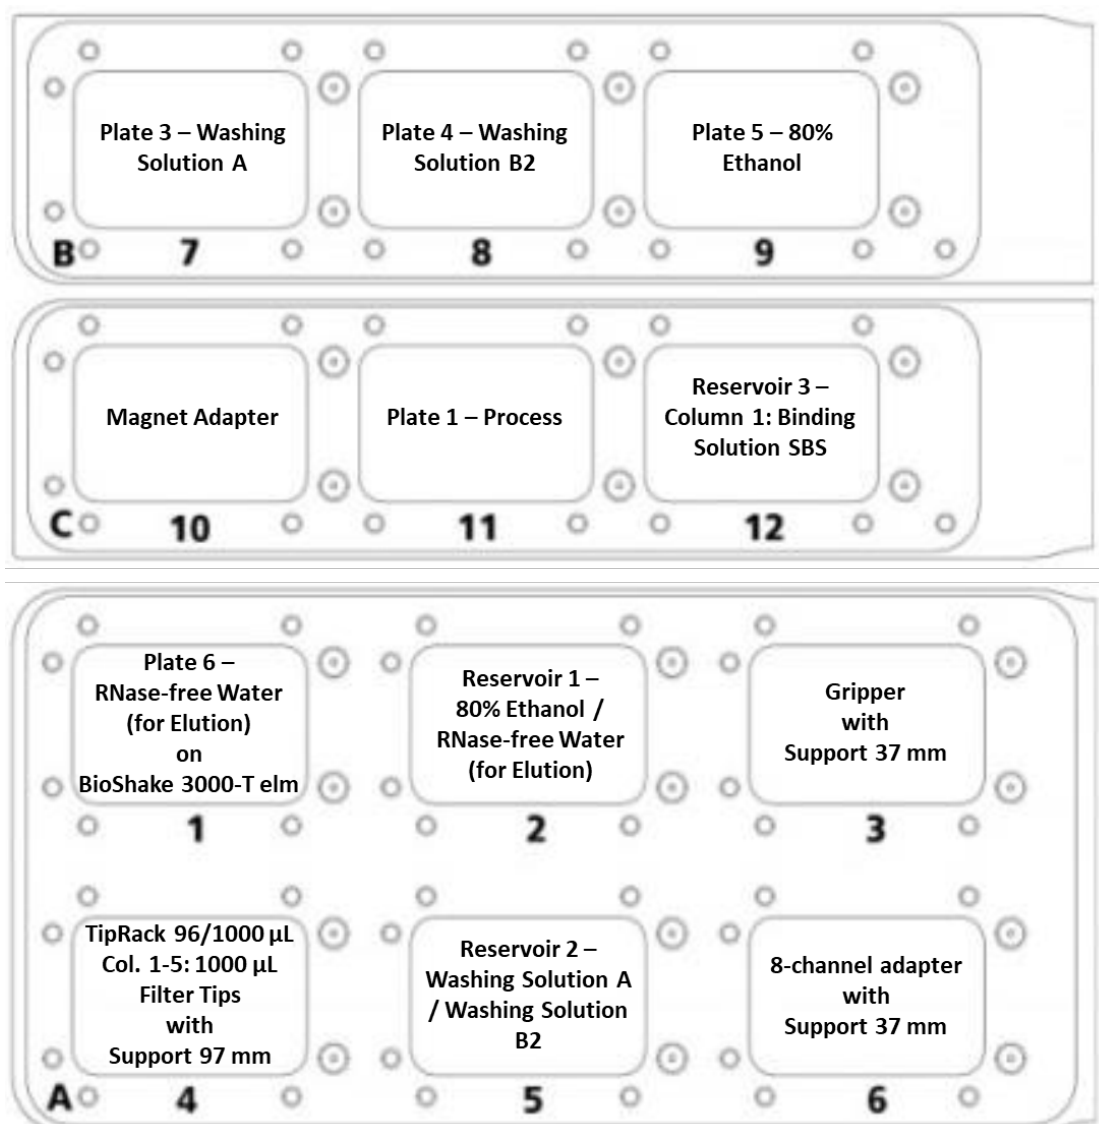

Figure 3: Deck layout for starting the prefilling protocol for 200 µL sample volume.
4. Transfer the content of one bottle (70 mL) "RNase-free Water (for Elution)" into the **right** side of the 2 column reservoir labeled "Reservoir 1 – 80% EtOH / RNase-free Water (for Elution)". Place the filled reservoir into the CyBio Felix on position 2 (→ see Figure 3).
6. Transfer the content of one bottle (40 mL) of “**Washing Solution B2**” into the **right** side of the 2 column reservoir labeled “Reservoir 2 – Washing Solution A / Washing Solution B2”. Place the filled reservoir into the CyBio FeliX on position 5 (→ see **Figure 3**).
7. Transfer the content of one bottle (15 mL) of “**Binding Solution SBS**” into column A1 of the reservoir labeled “Reservoir 3 – Binding Solution SBS”. Place the filled reservoir into the CyBio FeliX on position 12 (→ see **Figure 3**).
9. Place the CyBio TipRack 96/1000 µL into the CyBio FeliX on position 4 (→ see **Figure 3**).
10. Place the 8-channel adapter (Head R 96) with the support 37 mm into the CyBio FeliX on position 6 (→ see **Figure 3**).
11. Place the empty, labeled plates on the CyBio FeliX deck according to the deck layout for the prefilling protocol (→ see **Figure 3**).